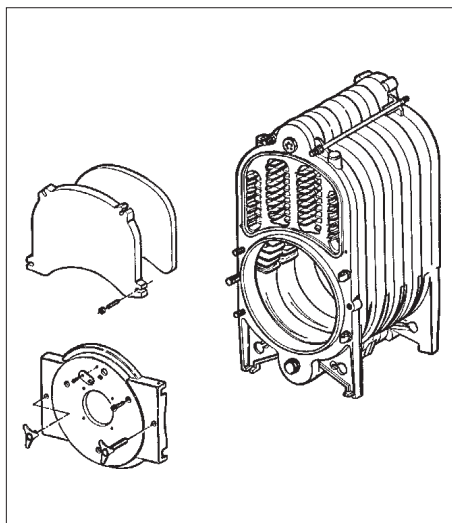

Fig. 20
4.12 (Fig. 20) Assembly detail of the servicing door and burner hatch.